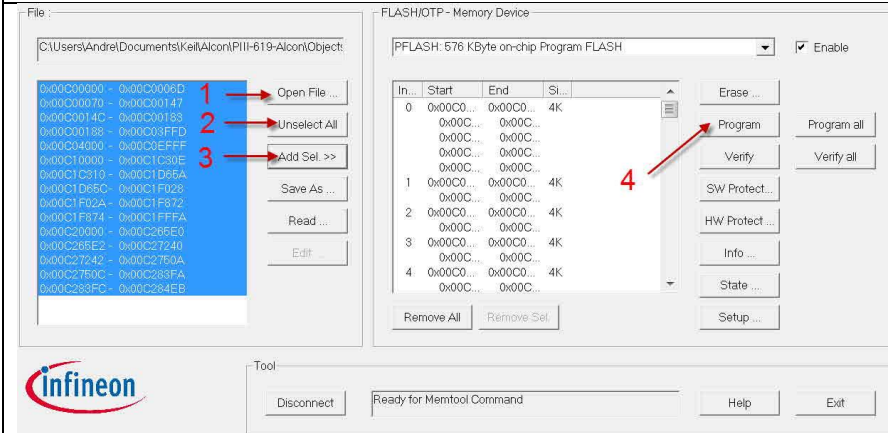

Figure 85
2. Click "*Open File ...*" button [1] in Figure 85 and browse to the location `C:\Videologix-IV\Firmware\VxPx.H86` to obtain latest firmware. You may have to change the file extension to "*H86-Files*" as shown below:
3. Click "*Select All*" button [2] in Figure 85
4. Click "*Add Sel >>*" button [3] in Figure 85
5. Click "*Program*" button [4] in Figure 85. Memtool will start programming Proteus
8. Click "Disconnect" button in Figure 85